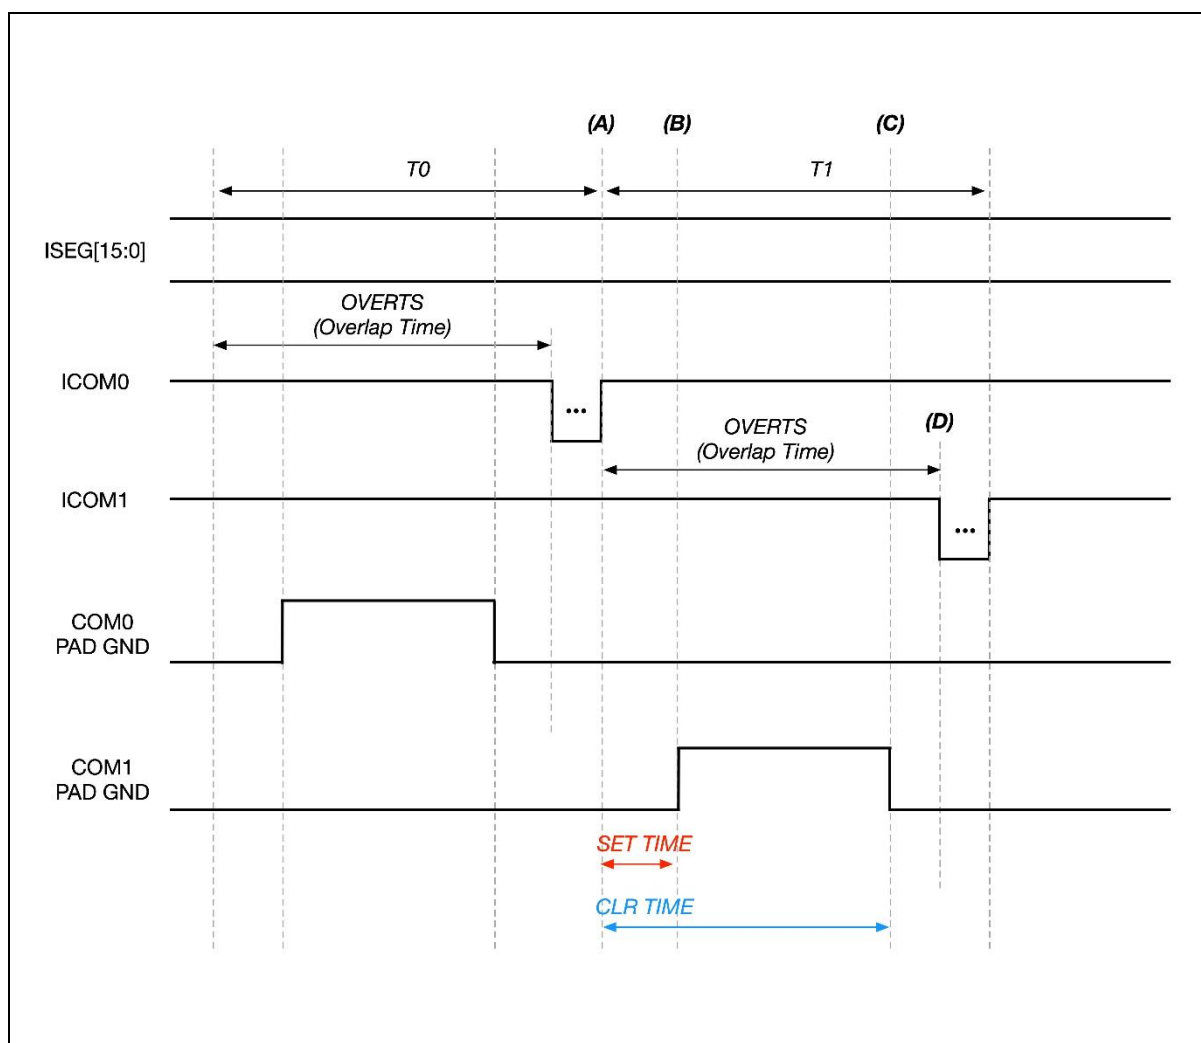

Figure 125. Timing Diagram of ISEG-GND Function
Figure 125 shows a timing diagram of the ISEG-GND function, where PAD control signal is generated during the overlap time between ICOM0 and ICOM1. In the figure, (A) represents the ICOM0 end point, (B) the ISEC-GND active point, (C) the ISEG\_GND inactive point, and (D) the ICOM1 start point, respectively.